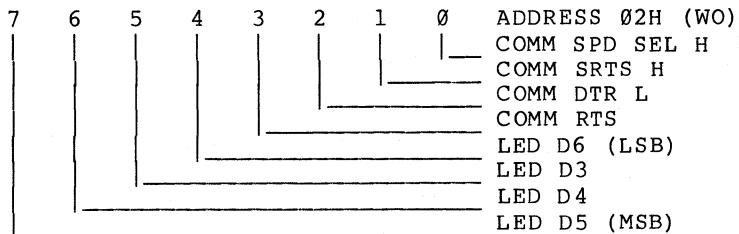

Figure 6. Communications Control Register (8088) Format
3.1.4.5.1 Communications Control Register - The communications control register is an 8-bit write only register that controls the modem lines on the communications port. It also controls diagnostic error codes displayed by the four 8088 LEDs. This register is accessed by performing a write to address 02H. The register bit format is shown in Figure 6 and the bits are described in Table 1.